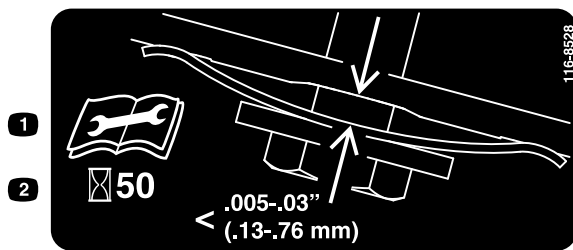

Figure 35
4. Hold a feeler gauge set between 0.13 and 0.76 mm (0.005 and 0.03 inches) against the wall and slide it down behind the belt tension spring; refer to Figure 35.